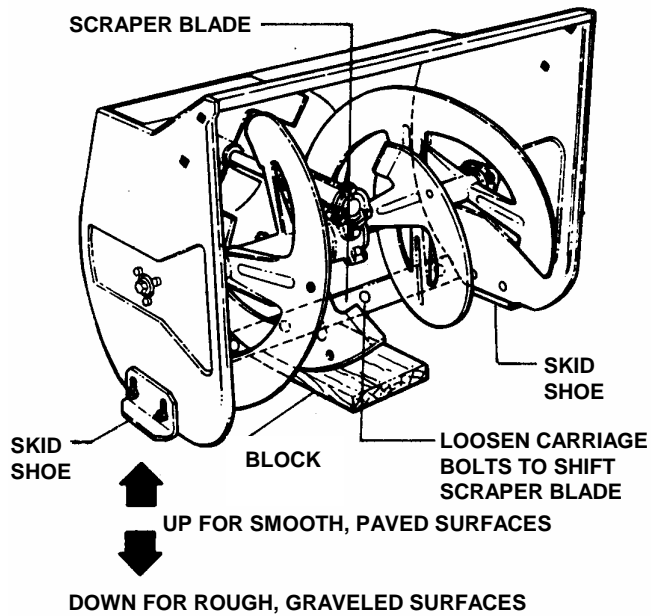

FIGURE 4.8
2. Loosen bolts on both skid shoes. Move shoes down to raise auger/impeller housing or move skid shoes up to lower auger/impeller housing. See Figure 4.8.